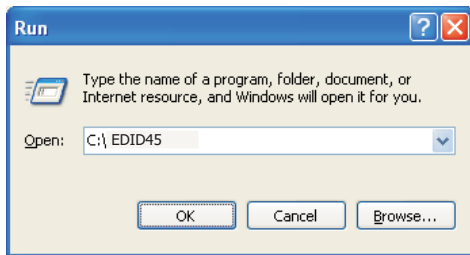

Fig. 6
3. At the submenu, type the letter of your computer's hard disk drive followed by :EDID45 (for example, C:\EDID45, as shown in Fig. 6).